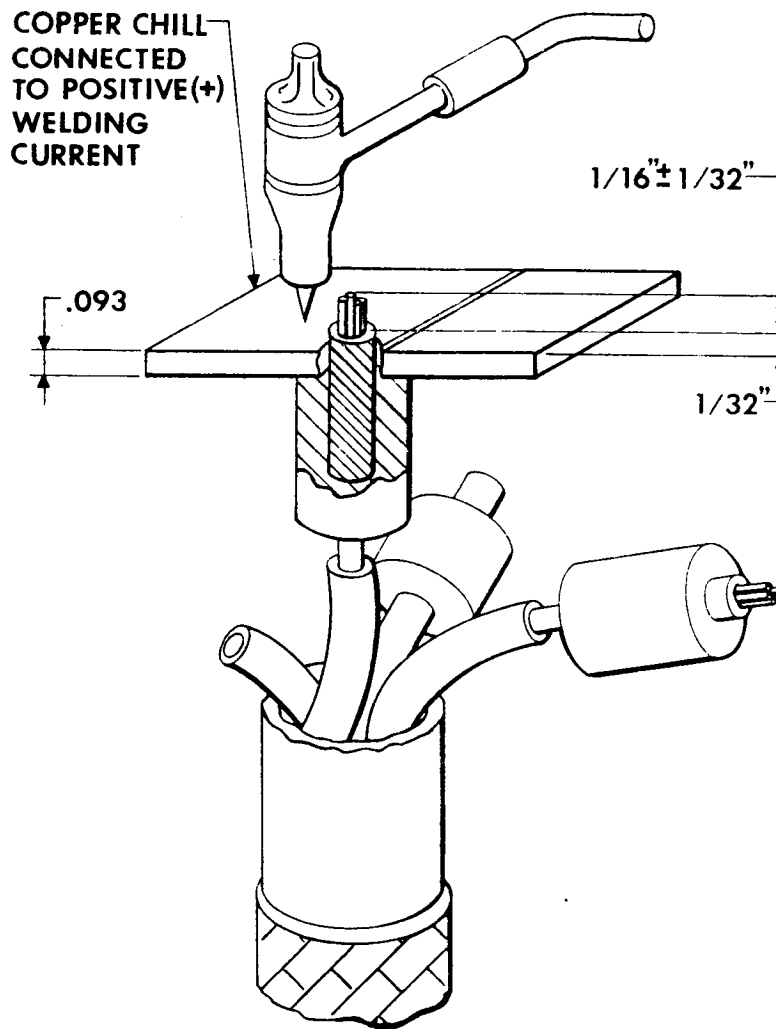

Figure 1
1. Insert the sleeve and conductor into a chill block fixture, as shown in Figure 1, and weld as follows:
3. Copper chill fixture equivalent to Figure 1.